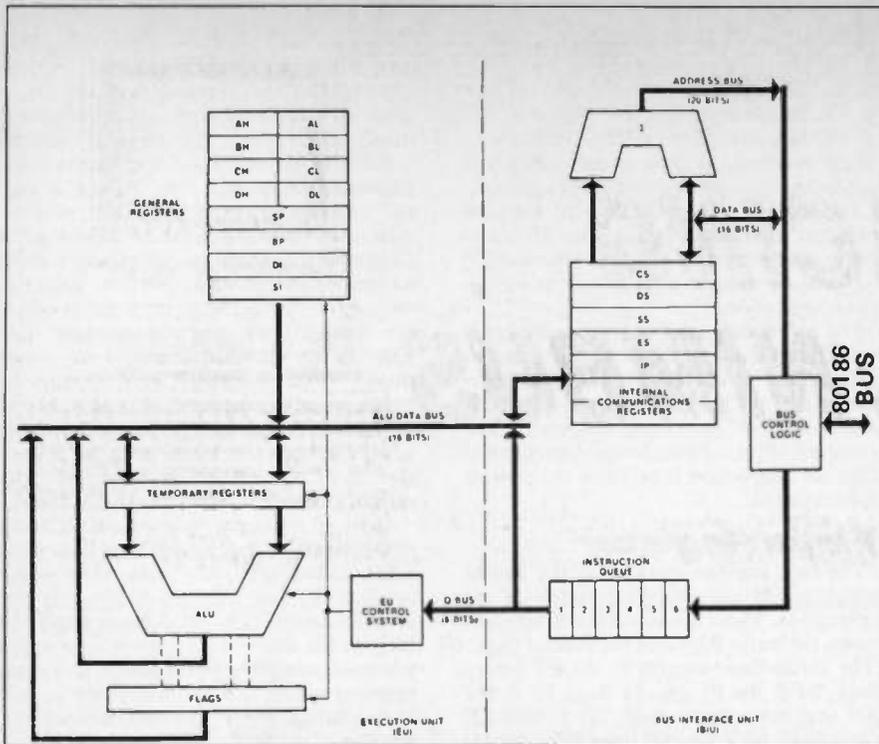

Fig. 2. 80186 architectural schematics.
Architecturally (Fig. 2) the CPU can be broadly separated into two independent units, the Execution Unit (EU) and the Bus Interface Unit (BIU). From a hardware viewpoint, the BIU executes all external bus cycles, generating the 20-bit multiplex addresses, read and write signals, status information, latch enable signals and others too numerous to mention here. The BIU also has a pre-fetch pipeline, which pre-fetches six instruction bytes into a queue from which they are fetched by the EU, thereby reducing the elapsed times required to execute the instructions. Thus,